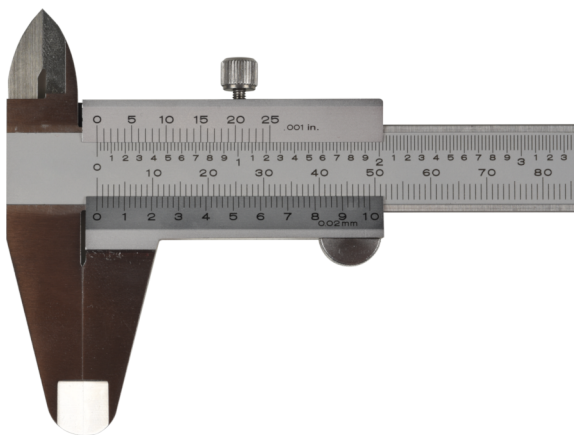

Figure 17: Checking the zero reading on a vernier caliper.
7. Check the zero reading of the caliper. To do this, loosen the clamping screw and close the caliper until the jaws are together, as shown in Figure 17.